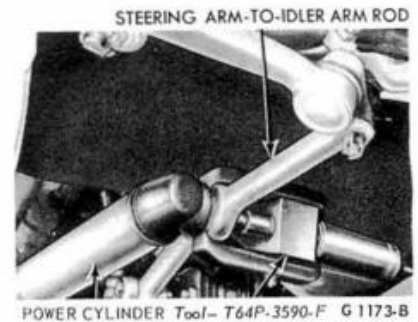

FIG. 11—Disconnecting Power Cylinder Stud
4. Disconnect the power cylinder stud from the steering arm-to-idler arm rod as shown in Fig. 11.